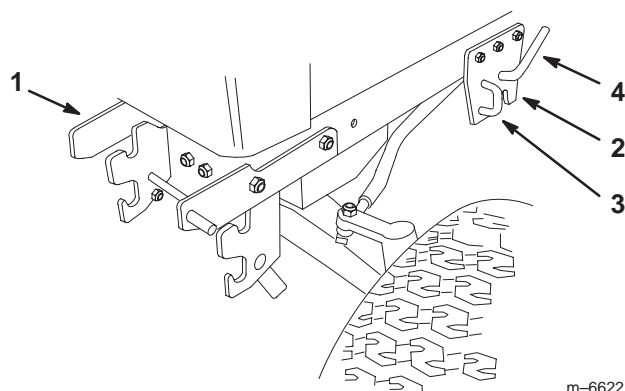

Figure 7
5. Open the mid-mount hitch by pulling out the J-pin and moving the lock handle rearward (Fig. 7).